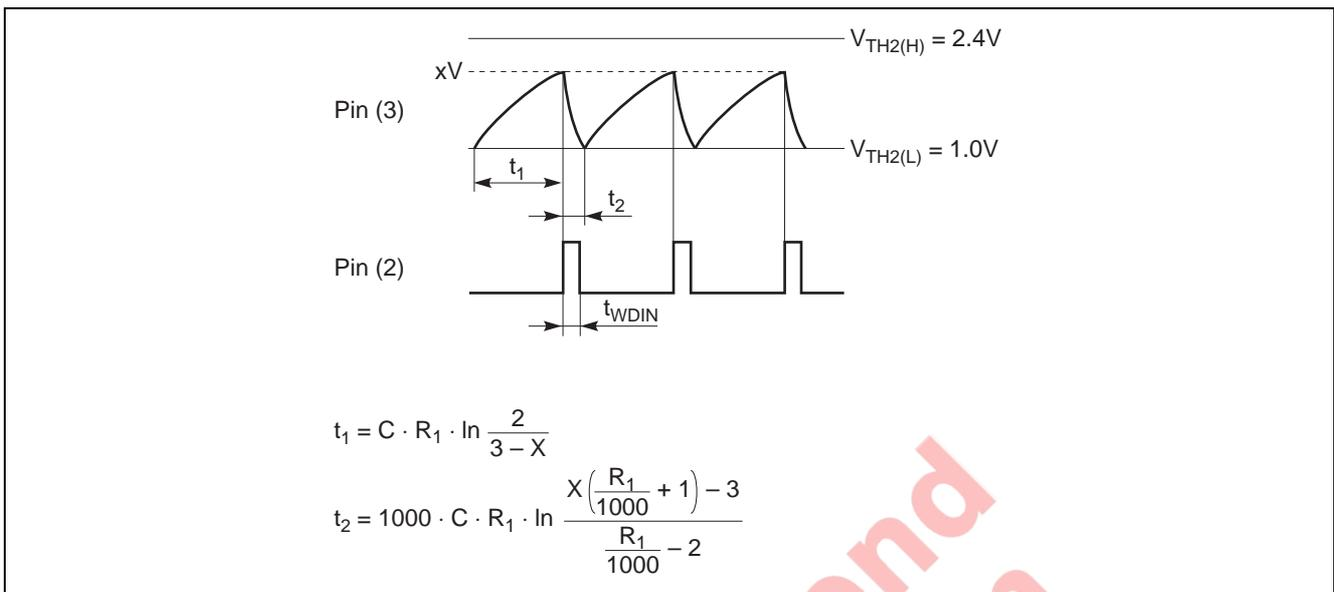

Figure 3
2. Pin (2) (WD pin) Input Frequency, Input Pulse Width, Charge/Discharge Time
When input of (2) WD is normal, TC waveform (3) is as shown in figure 3.